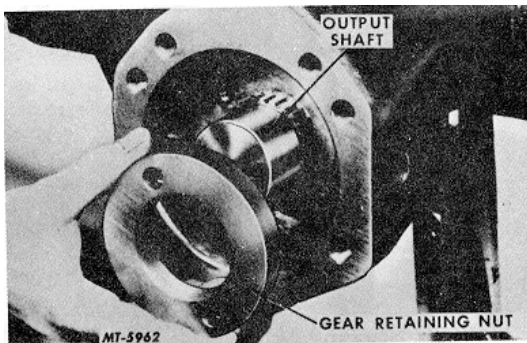

Fig. 9
6. Remove the capscrews from the output shaft gear using an Allen wrench. Then the gear retaining nut may be removed by turning it counterclockwise from the output shaft, Fig. 9.